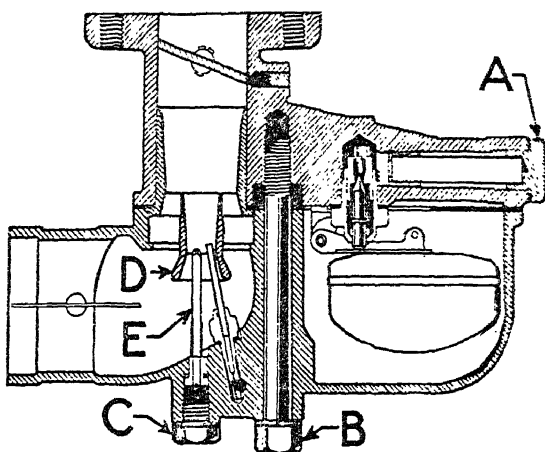
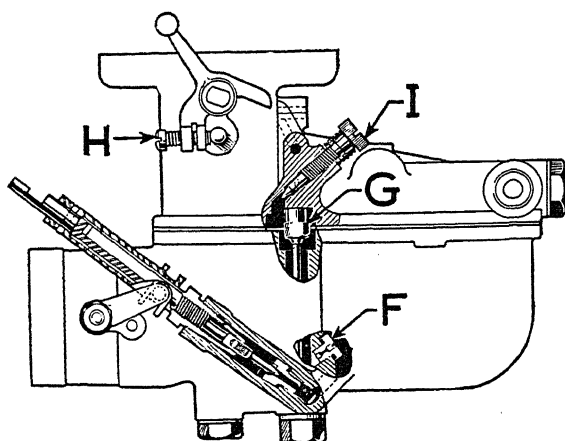

Fig. 65. Sectional View of Ford Model "A" Car Carburetor
Fig. 66. Adjustments on Ford Model "A" Car Carburetor
Referring to Fig. 65, it will be noted that gasoline enters at the point *A*, flows through a screen, and drops into the float chamber. As the float rises on the gasoline, the level is automatically controlled. The air choke for starting is embodied in the carburetor in the air passage. The main gasoline jet *E* is located in the venturi *D*. It will be seen that if the butterfly valve in the air intake is turned across the air passage, that a very considerable suction is induced around the main gasoline jet *E*.
*Cleaning Carburetor.* If the carburetor performance is not all that is expected, the filter plug *A* should be removed and the screen lifted out. Any dirt may then be blown out with the air line and the passage rinsed out with gasoline. If this does not cure the trouble, it will be necessary to disassemble the carburetor. In order to do this, remove the main assembly bolt *B*, Fig. 65, and carefully separate the parts to avoid damage to the gasket, float, and
*Idle Adjustment.* The ignition of the engine should be in first-class condition and the ignition timing should be properly set. The first step in adjusting the carburetor is to retard the spark fully. Next adjust the throttle adjusting screw *H*, Fig. 66, until the engine will turn over at a fair rate and not stall. Then turn the idle adjusting screw *I* in or out until the engine operates smoothly and shows no signs of stopping or galloping. After this adjustment has
*Trouble-Shooting Hints.* Check the gasoline tank to see whether the fuel supply has been exhausted. Next, check the feed line to see that fuel flows to the carburetor freely. Finally, make certain that there is fuel in the carburetor. If no fuel feeds to the carburetor, remove the plug and screen *A*, Fig. 65, and clean them. The next thing is to check the secondary venturi *D* to see that it is in the position shown. If the car owner complains of lack of speed, the main jet *E* should be checked to see whether it is clean and free of any particles of dirt which may have tended to clog it. If the customer complains of poor idling and poor slow-speed performance, the compensator *F*, Fig. 66, should be checked to see that it is clean. The idling jet *G* furnishes all of the gasoline for idling, consequently the tube and metering hole must be kept clean and free of dirt. If the customer complains of leaks about the carburetor, the parts should be checked for physical damage and all connections should be tightened.